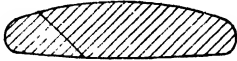

Fig. 220.—Cross Section of Repaired Cricket-bat.
**Piece Splintered off Bat Blade.**—To repair a bat that has a piece splintered off near the bottom, procure an old bat blade, saw off a piece somewhat larger than the fractured part, and plane it up true on one side. The damaged part of the bat should also be planed up true, and to the shape of Fig. 220, as it then offers more resistance than if it were joined squarely. Unite the planed surfaces with good hot glue and